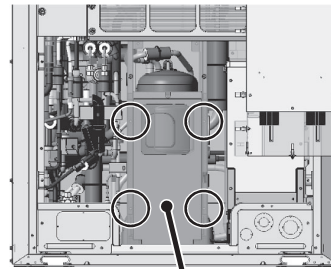

Figure 2
- (2) Remove the front compressor covers by unscrewing the four screws. (See Figure 2.)